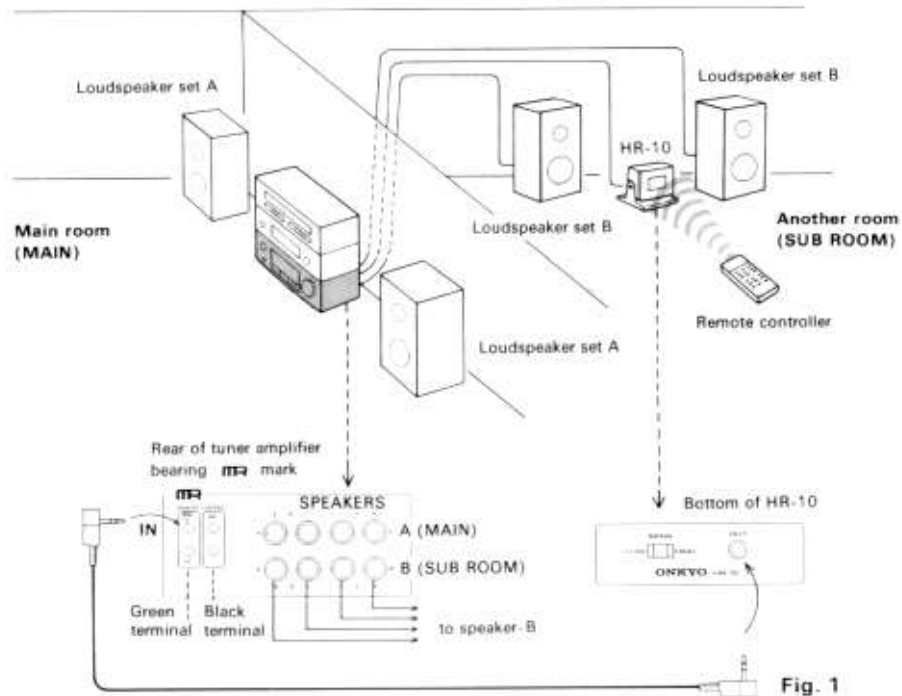

Fig. 1
- When using only the HR-10 to control components in the main room from another room, connect them as shown in Fig. 1.
- To control components in the main room from another room, connect them as shown in Figs. 1 and 2, then operate the system according to the procedure below.
- (1) Turn on the power of the components in the main room, keep the volume control at low level, then set the B (SUB ROOM) switch for speakers to the ON position. When you are not listening in the main room, turn the A(MAIN) switch for speakers in the main room to the OFF position.
- (2) Operate the remote control by directing it towards the HR-10 in another room.